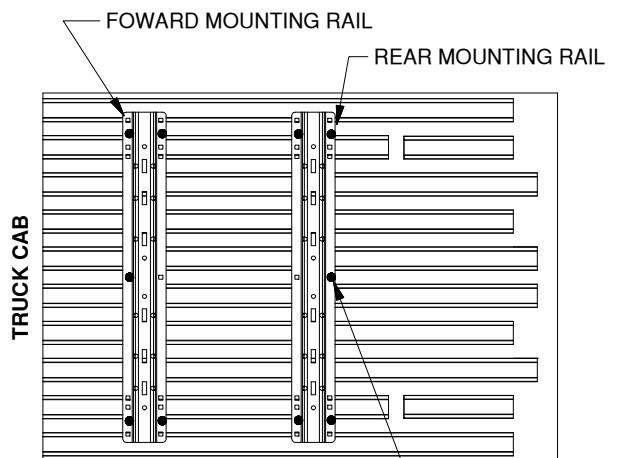

Figure B2: View over bed, showing drill locations for the bed rails.
- 2. Mark hole locations.** While carefully ensuring the mounting rail does not move, use a center punch tool to mark the 5 drill locations on the rear rail. See Figure B2 for hole marking locations for this installation (forward rails will install in a later step). Once all 5 rear rail locations are clearly marked, move the bed rail out of the way and drill each location with an 1/8" drill bit.
- 2. Drill forward mounting holes.** Using the same methods as used for the rear mounting rail mark, drill, check, and enlarge the holes for the forward mounting rail. Refer to "DRILL REAR MOUNTING HOLES" section, Steps 1 through 4, on previous pages. Notice that the hole locations are slightly different than the rear rail, see Figure B2 (on page 2).